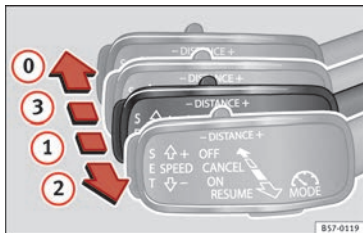

Fig. 180 On the left of the steering column: third lever for operating the Adaptive Cruise Control.
- Pull the lever to position **1** **» Fig. 180.** **ACC standby** will be shown on the instrument panel display.